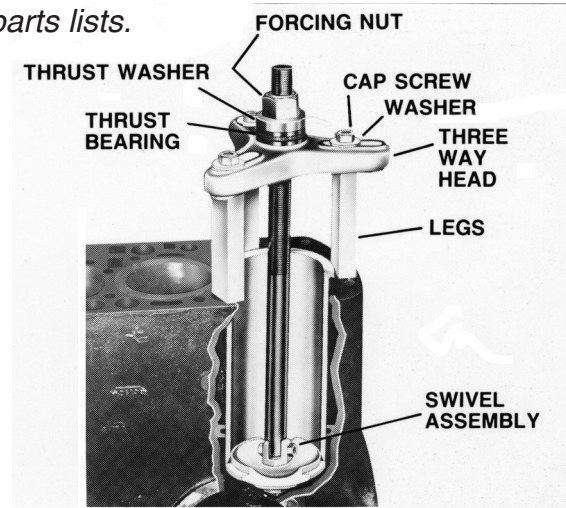

Figure 1
2. Select the correct adapter plate (not included) for the engine make and model number. Assemble the swivel assembly (Item 5) onto the pulling screw, and assemble the adapter plate onto the swivel assembly. See Figure 1. **NOTE: If the cylinder sleeve is accessible from the bottom, the swivel assembly (Item 5) is not needed.**
3. Tilt the swivel assembly, and insert the adapter plate down through the sleeve from the top. See Figure 1.